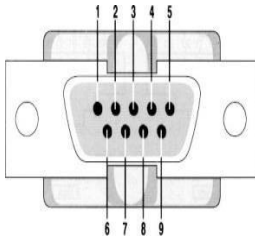

Fig 4.6.5:DB9 Male Connector
- In RS232, a logic one (1) is represented by -3 to -25V and referred as MARK while logic zero (0) is represented by +3 to +25V and referred as SPACE.
- In RS232 standard there are two types of connectors. DB9 connector or DB25 connector which are as shown in below fig.4.6.5 and 4.6.6